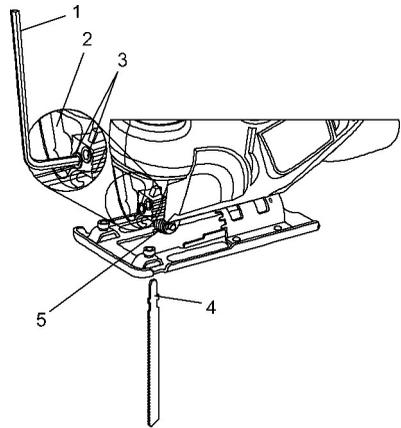

Fig. 1
2. Insert the hex key (1) through the access hole in the chip shield (2) (Fig. 1).